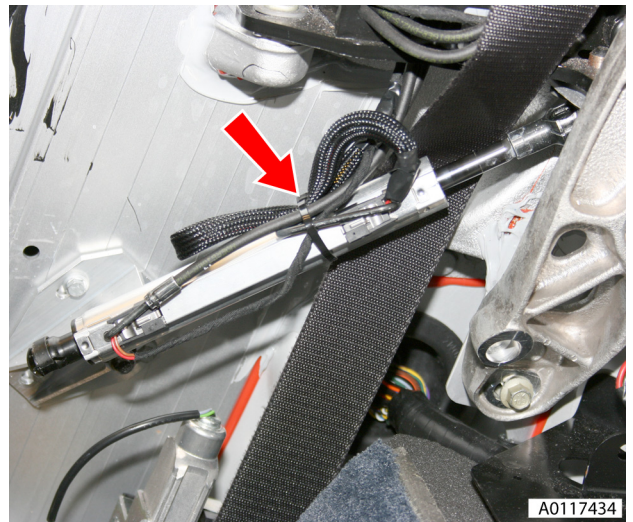

Fig. 4
10. Cut cable ties securing pipes and wires to cylinder (see Fig. 4).